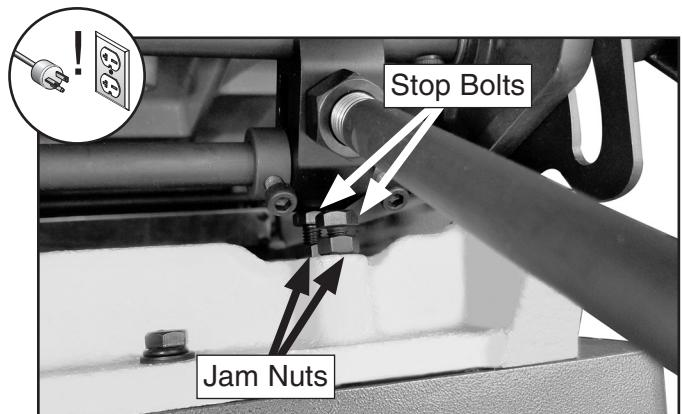

Figure 54. Location of outfeed table stop bolts and jam nuts.
- Loosen outfeed table lock located at front of machine, and loosen jam nuts and positive stop bolts located at side of machine just below outfeed table (see **Figure 54**).